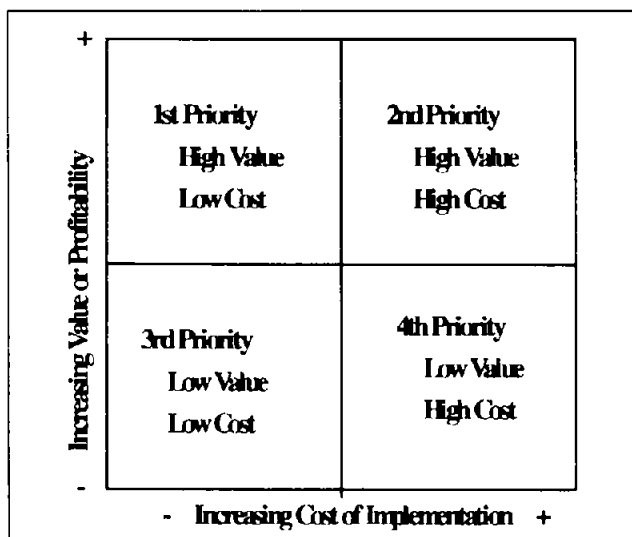

Figure 3. A project prioritization matrix.
3. Develop a simple project analysis matrix to assist the team in prioritizing actions and projects, Figure 3. Estimates of costs and value should be "guestimated" and should be plotted on a relative basis. Don't worry about being exact - this exercise is to separate the wheat from the chaff.